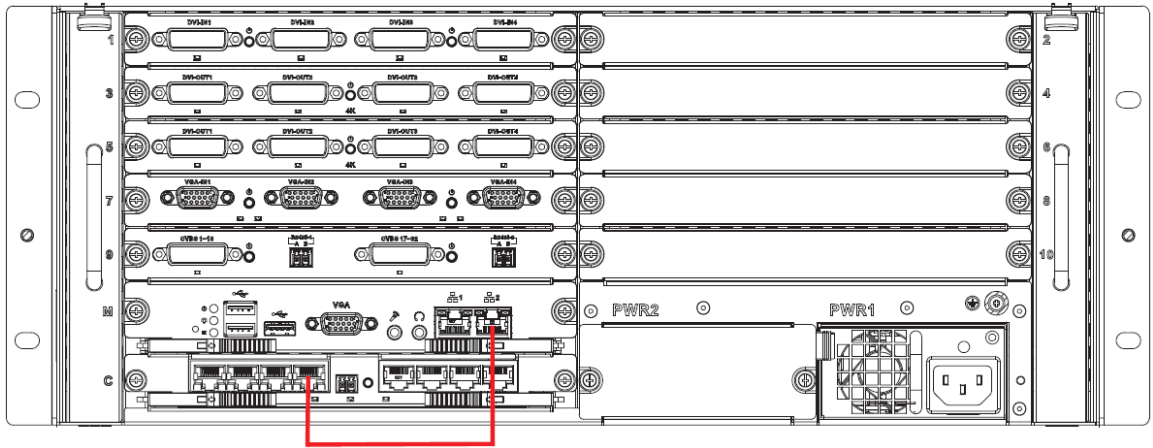

Figure 1-9
**Step 6** Connect network interface 2 of main control panel and network interface of control panel with a gigabit network cable; connect network interface 1 of main control panel and client network, as shown in Figure 1-9.